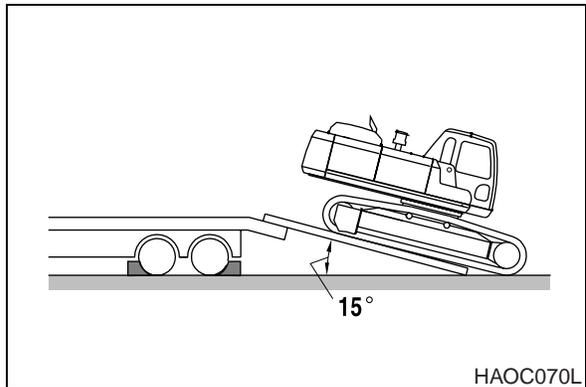

Figure 2
4. The unit does not require disassembly for normal over-the-road transportation. If the boom and arm need to be removed, the counterweight will place more weight on the rear of the machine. Make sure to back the excavator onto the trailer so that the counterweight end of the excavator is positioned on the ramp first. See Figure 2.